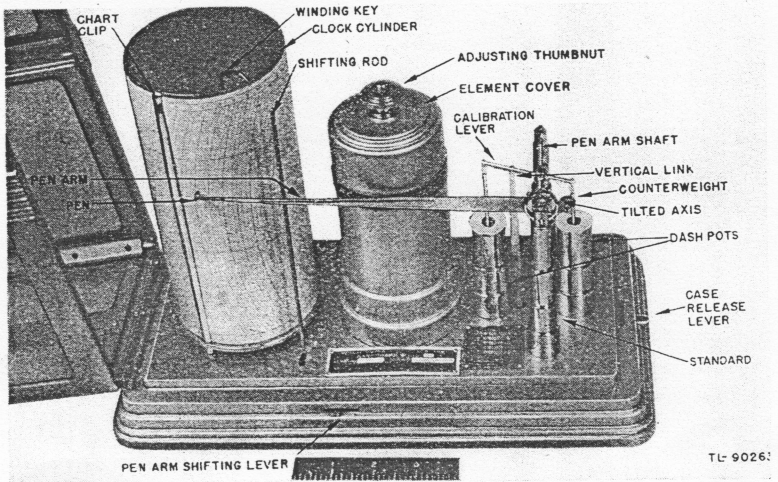

Figure 2. Barograph ML-3-(*), cover open.
4. PRESSURE-MEASURING MECHANISM (figs. 2 and 3). a. The pressure-measuring mechanism of Barograph ML-3-(*) consists of a pressure-sensitive unit which actuates a recording pen through a system of levers.
(4) The calibration lever (fig. 2) is inserted through the pen arm shaft. It extends at right angles on each side of that shaft, more on the side to which the vertical link is attached than on the other, and is held in position by a set screw. The ends of the calibration lever are attached to dash pots.
(5) The ends of the pen arm shaft are supported by standards (fig. 2) mounted on the base.
(6) The pen arm has one end attached to the pen arm shaft by a *tilted-axis* arrangement (fig. 2). The other end of the long arm is free and is partially balanced by a *counterweight* attached to the opposite side of the axis.
d. The *recording pen* is a nickel-silver nib pen, clamped to the free end of the pen arm. The pen arm holds the pen in position to bear against the record chart. A vertical *shifting rod* (fig. 2) is mounted on the base near the free end of the pen arm. This rod is attached to the *pen arm shifting lever* provided at the front of the base, and can be moved laterally to hold the pen arm and pen away from the chart.
(1) Turn the adjusting thumbnut of the pressure-sensitive unit counterclockwise (to the left) to move the pen to the bottom of the chart. Then lift the pen by hand to the top of the chart and tie the pen arm to the shifting lever (par. 17a(2)).
(2) Remove the clock cylinder from the instrument.
(3) Use an eyedropper to remove the fluid from the dash pots.
8. FILLING DASH POTS. a. The dash pot fluid supplied is a low-temperature oil to be used in the dash pots located below the ends of the calibration lever (fig. 2). The instrument will give an erratic record if the dash pots are not filled.
(1) Before lowering the cylinder all the way so the gears mesh, note the local time and turn the cylinder so the corresponding curved vertical (time) line on the chart is lined up approximately with the pen.
(2) Lower the cylinder all the way and make certain that the drive gear of the clock meshes with the stationary gear on the base.
13. PEN ADJUSTMENT. **a. Time Setting.** (1) Move the shifting lever to bring the pen in contact with the chart (fig. 2).
(1) Determine the pressure indicated by the local standard barometer.
(2) Consider the local pressure *range* and select one of the chart's zero horizontal lines (marked .00) to represent *whole inches* of local pressure.
(3) Turn the knurled adjusting thumbnut at the top of the element cover (fig. 2). This nut pulls the pressure-sensitive unit up or lets it down, and thus moves the pen through the connecting system of levers. (Barograph ML-3-D has a locknut which must be released before the thumbnut can be turned.)
(4) Turn the thumbnut slowly until the pen touches the chart's horizontal line (fig. 2) that, with reference to the .00 line selected in (2) above, corresponds with the pressure indicated by the local standard barometer.
(5) Lightly tap the base of Barograph ML-3-(*) while turning the thumbnut. This will compensate for the lag in response due to the effect of the dash pots, and insures accuracy of the setting.
(6) If there is much variation between the local pressure range and the sea-level pressure range (28 to 31 inches of mercury) for which Barograph ML-3-(*) is calibrated, a calibration error will be introduced that is greater than the specified tolerance of 0.02 inch of mercury. Under such circumstances, the instrument must be sent to a depot for recalibration. *Do not attempt to recalibrate it in the field.* The procedure requires test chambers in which pressure and temperature can be controlled.